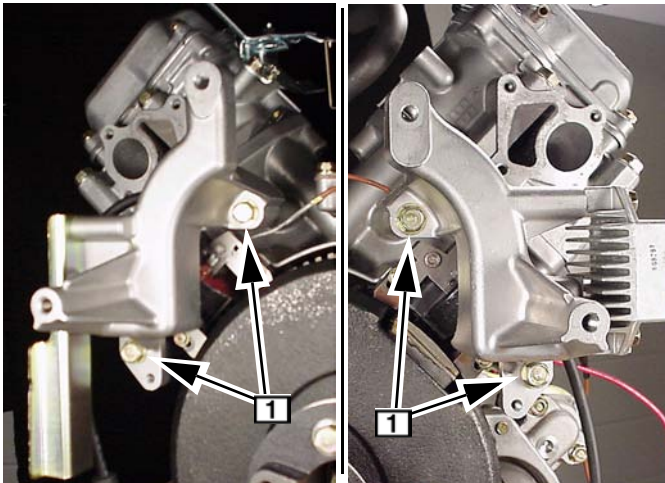

Fig. 157
1. Install fan brackets, Fig. 157. Torque screws **1** to 150 in. lbs. (17.0 Nm).